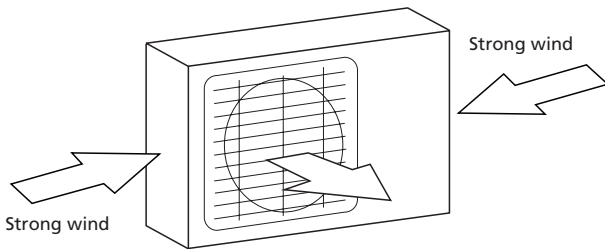

Fig. 3.1
- ☑ If the location is exposed to strong winds (for example: near a seaside), the unit must be placed against the wall to shelter it from the wind. If necessary, use an awning. Ensure minimum space requirements are met. (See Fig. 3.1 & 3.2)